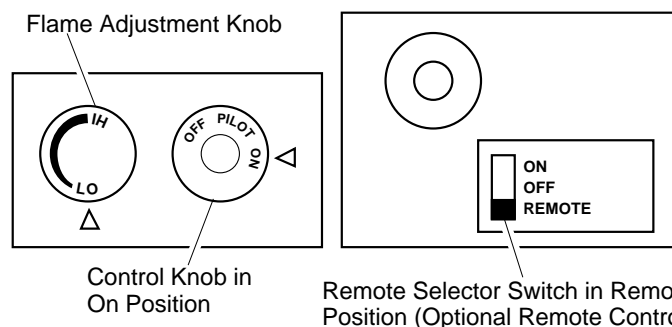

Figure 33 - Setting the Remote Selector Switch, Control Knob, and Flame Adjustment Knob for Remote Operation
1. After lighting, let pilot flame burn for about one minute. Turn control knob to ON position. Adjust flame adjustment knob anywhere between HI and LO. Slide the remote selector switch to the REMOTE position (see Figure 33). **Note:** The burners may light if hand-held remote ON button was on when remote selector switch was last turned off. You can now turn the burners on and off with the hand-held remote control unit. **IMPORTANT:** Do not leave the remote selector switch in the REMOTE position when the pilot is not lit. This will drain the battery. **IMPORTANT:** Be sure to press the ON/OFF buttons on the hand-held remote control unit for up to 3 seconds to assure proper operation.